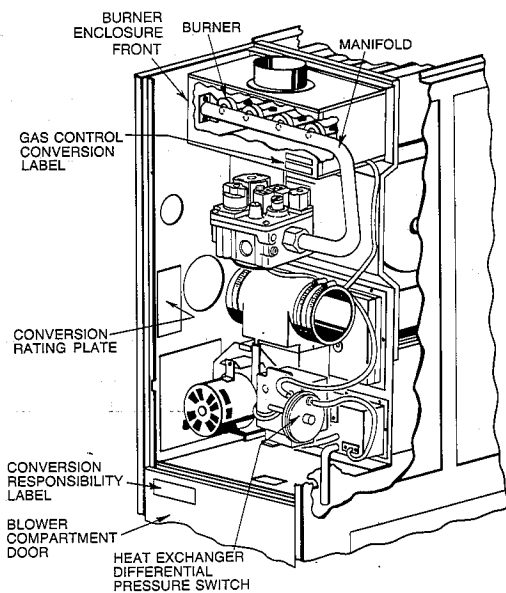

Fig. 1—Furnace Components (Upflow Furnace)
NOTE: See Fig. 1 or 2 for component location on upflow or downflow furnaces, respectively.
2. Attach Gas Control Conversion Label (310148-301) to burner enclosure front. (See Fig. 1 or 2.)